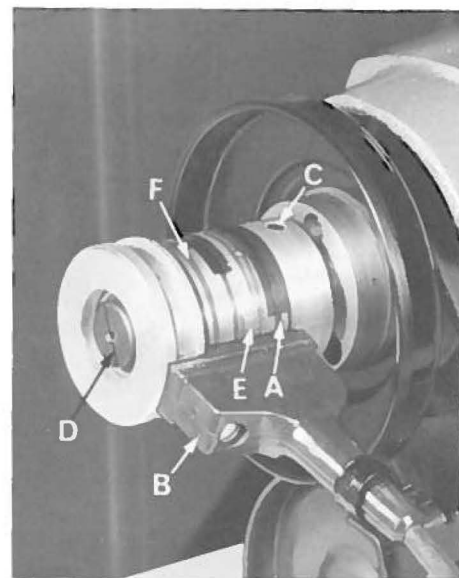

Fig. 36
(b) At this time the brass contact of the left band (A, Fig. 36) should be flush with the front edge of the brush holder (B). To make this adjustment position needle bar and deflector plate as described in step (a), then loosen set screws (C) in synchronizer and move as required.